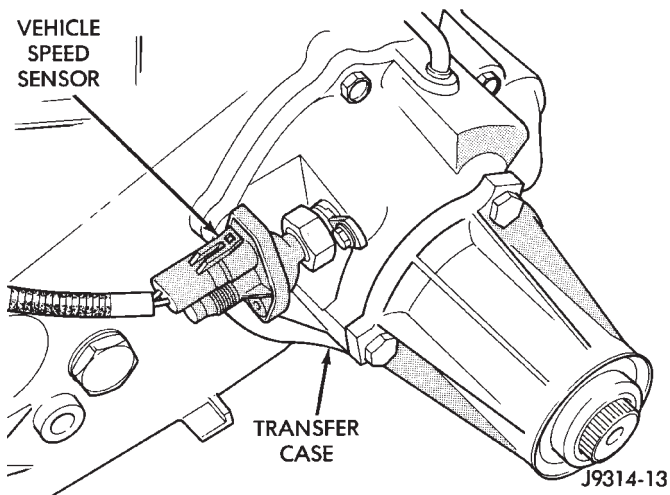

Fig. 11 Vehicle Speed Sensor—Typical
(23) Inspect for pinched or leaking fuel tubes. Inspect for pinched, cracked or leaking fuel hoses.
(24) Inspect for exhaust system restrictions such as pinched exhaust pipes, collapsed muffler or plugged catalytic converter.
(25) If equipped with automatic transmission, verify that electrical harness is firmly connected to park/neutral switch. Refer to Automatic Transmission section of Group 21.
(26) Verify that the harness connector is firmly connected to the vehicle speed sensor (Fig. 11).
(27) Verify that fuel pump/gauge sender unit wire connector is firmly connected to harness connector.
(28) Inspect fuel hoses at fuel pump/gauge sender unit for cracks or leaks.